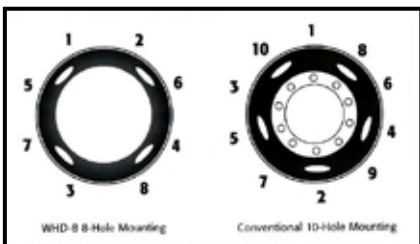

Figure 6 - Proper tightening and torquing sequence
7. With drive hubs, check the oil level in the drive housing and add oil as required by the manufacturer's specifications. When installing drive hubs, position a new gasket over the drive studs and install the axle through the hub. Use drive cones as recommended by the axle manufacturer. Torque the nuts to the manufacturer's specifications using a sequence similar to that shown on page 11, Figure 6. If wheel hubs are equipped with oil fill/drain plugs, add a pint of oil to each wheel-end.
3. Draw up the nuts alternately in the sequence shown in Figure 6. DO NOT tighten them fully at this time. Stud and cap nut threads should be clean and dry; no oil should be used beyond the first three threads.
5. Tighten and torque the nuts fully, using the same alternating sequence as shown in Figure 6. Tighten them only to the recommended torque level as shown in the chart on page 13. Use a torque wrench to verify the proper torque, especially if an air wrench or bar wrench has been used to tighten the nuts.